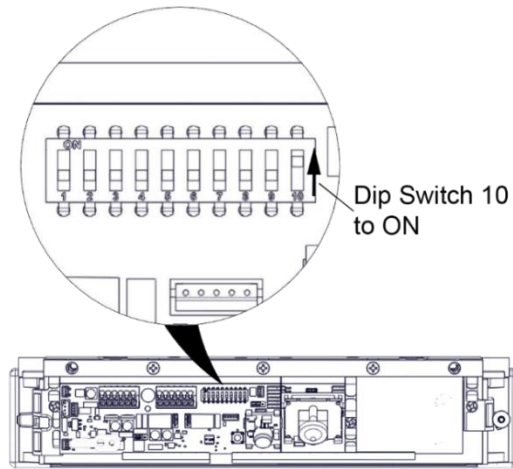

Figure 41. Setting Dip Switch 10 to ON
2. Using a Phillips screwdriver, REMOVE the two (2) screws securing the cover
4. SET Dip Switch 10 to "ON" (see Figure 41, "Setting Dip Switch 10 to ON").